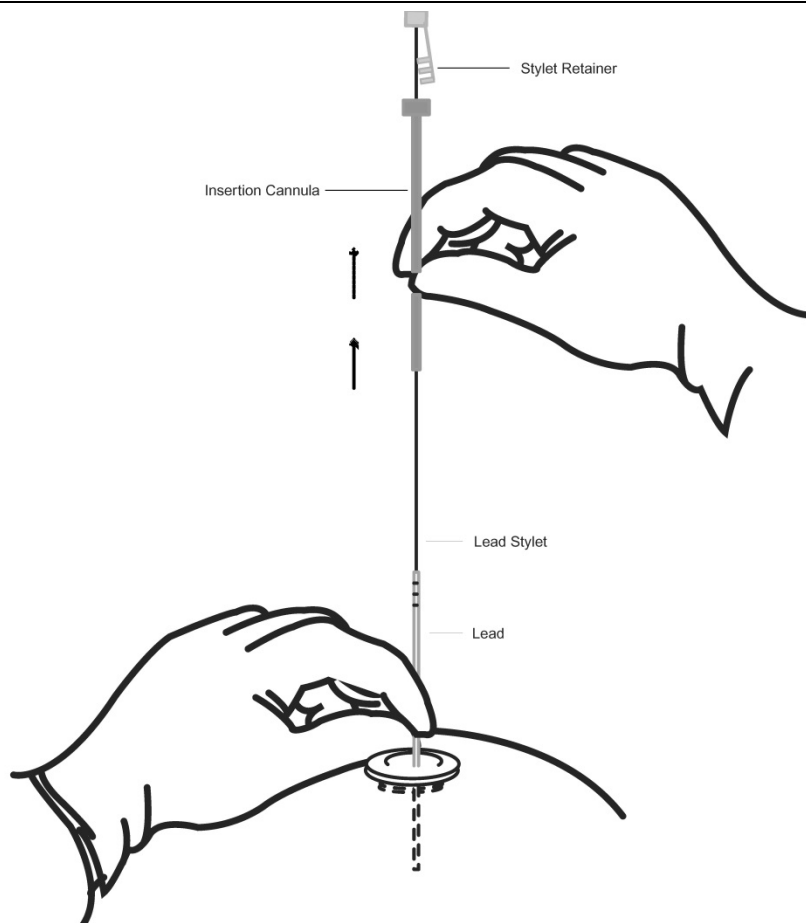

Figure 9: Removal of the insertion cannula, stylet, and stylet retainer from the lead.
- Gently pull the insertion cannula up over the lead (Figure 9) while stabilizing the lead at the burr hole to avoid lead migration.